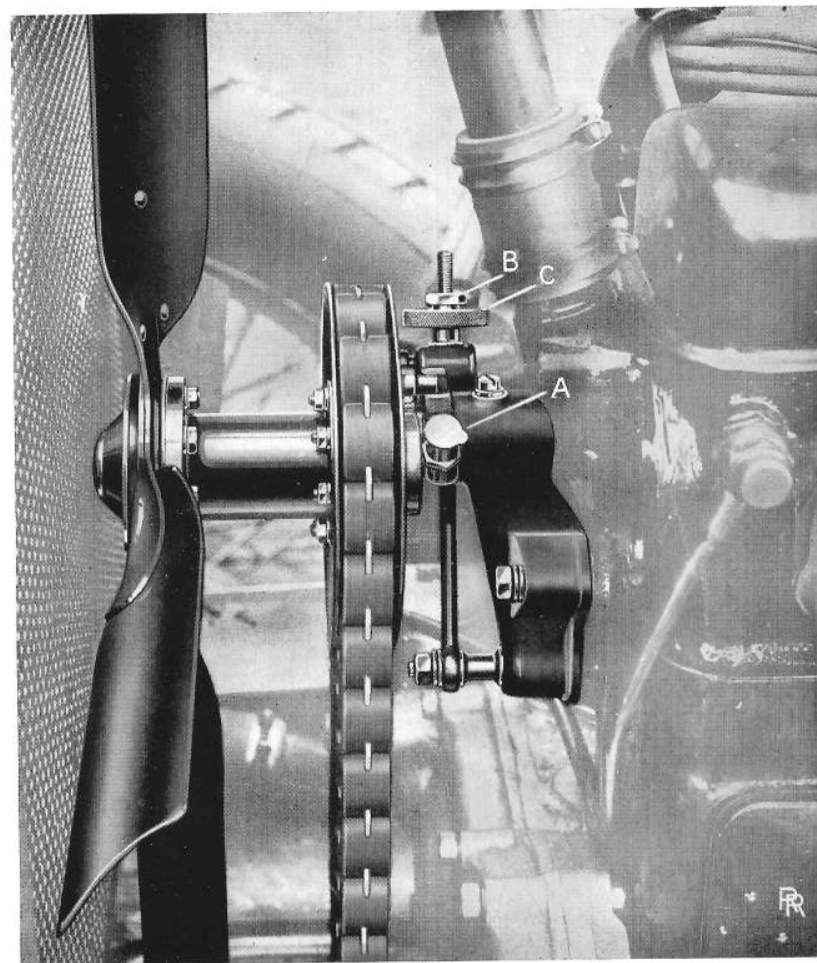

FIG. 36. FAN BELT ADJUSTMENT.
**Fan.** A spring-lid lubricator is provided on the fan bracket as shown at **A** (Fig. 36) for lubrication of the fan ball bearings.